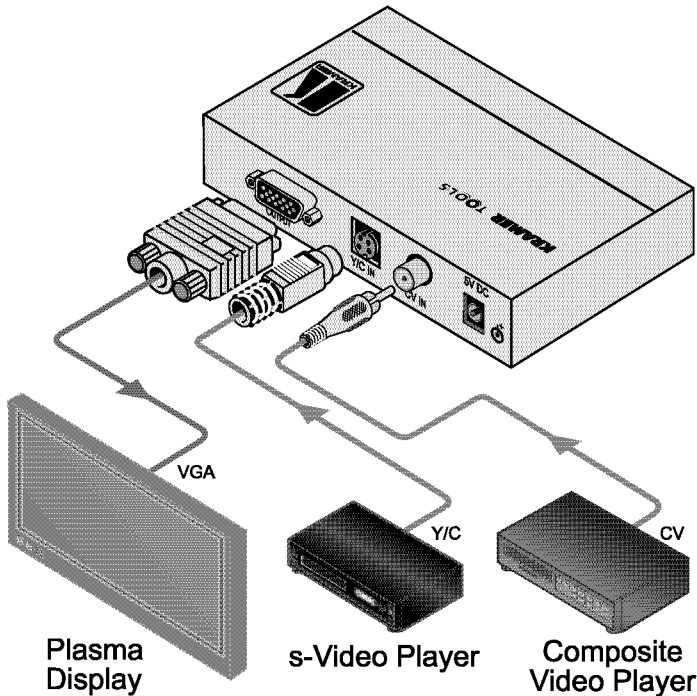

Figure 2: Connecting the VP-409
To connect the VP-409, as illustrated in the example in Figure 2, do the following¹:
3. Connect the 5V DC power adapter to the power socket and connect the adapter to the mains electricity (not shown in Figure 2).